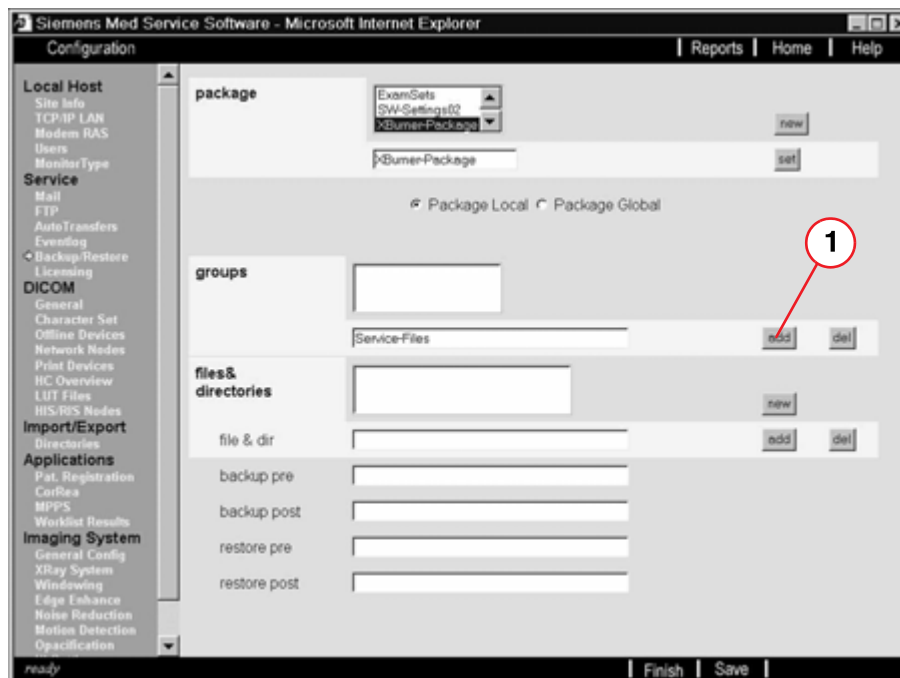

Fig. 117: Service_Backup/Restore_Groups_Service files
- Enter "Service files" under "Groups" and accept this entry by clicking on the "Add" button (1/ Fig. 117 / p. 125).